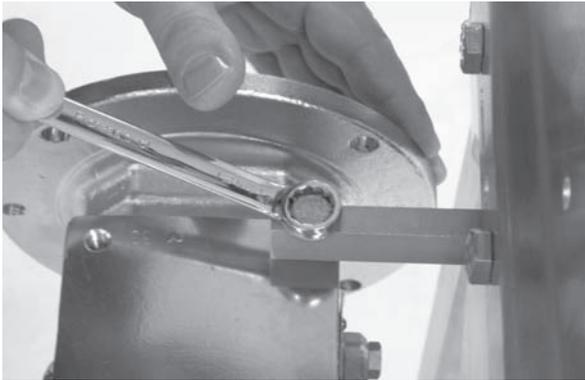

Figure 51
4. Unbolt the drive assembly and slide it off the bearing spindle (**Figure 51**).